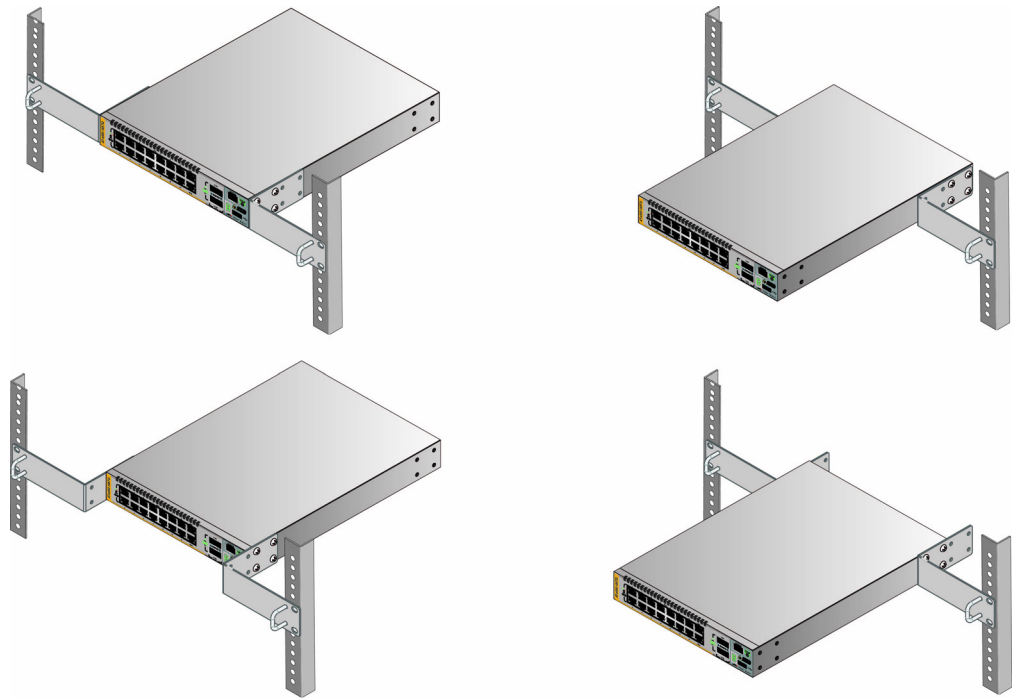
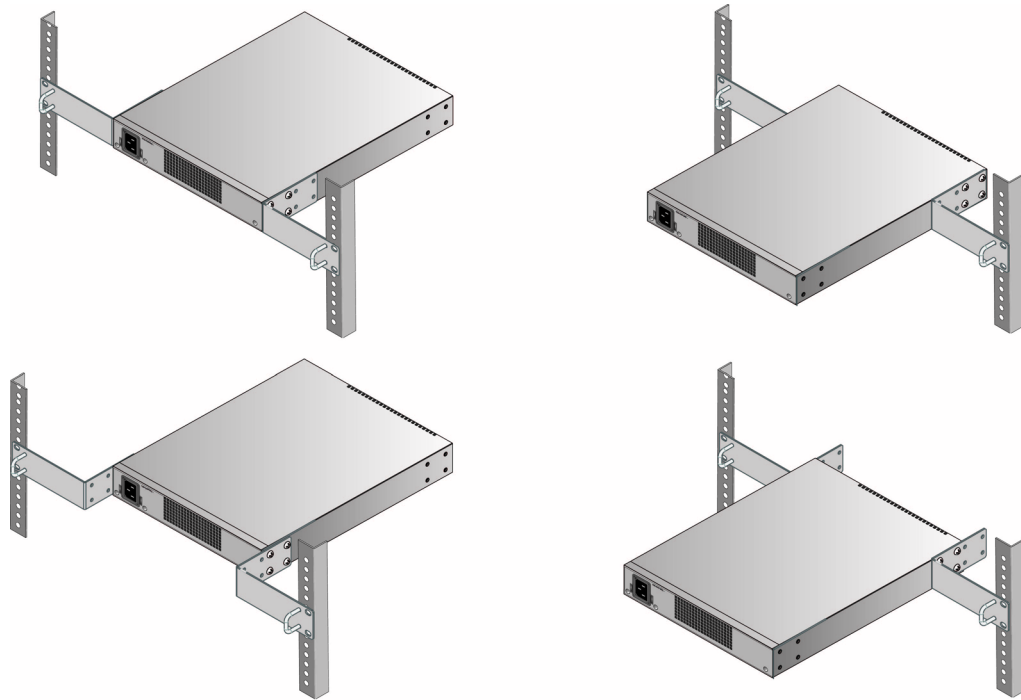
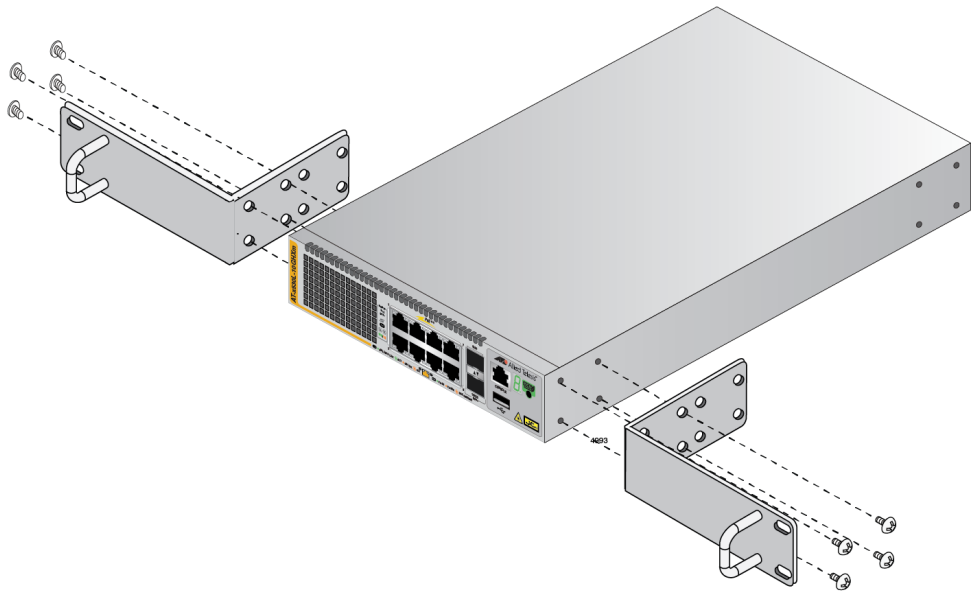

Figure 51. Switch Orientations with the Front Panel Facing the Front of the Equipment Rack
Figure 52. Switch Orientations with the Rear Panel Facing the Front of the Equipment Rack
Figure 54. Attaching the RKMT-J14 Brackets to the Switch
You can use the different sets of holes on the switch and brackets to install the switch in the equipment rack in a variety of orientations. You can install it with the front panel flush with, extending in front of, or recessed behind the front of the equipment rack. The illustrations in Figure 51 show the switch orientations with the front panel facing the front of the equipment rack.
You can also orient the switch with the rear panel facing the front of the equipment rack. Refer to Figure 52.
3. Attach the two brackets to the sides of the switch in the selected position, using the eight M4x6mm screws included with the unit. (Refer to Figure 51 on page 111 and Figure 52 on page 112.) The illustration in Figure 54 shows the installation of the brackets such that the front panel of the switch is even with the front of the equipment rack.